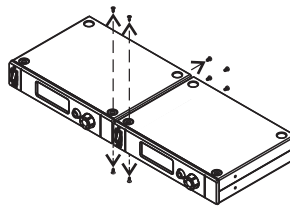

Fig. 8
- (A) Remove top and bottom screws, as Fig. 8.